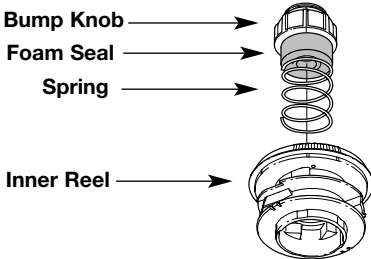

Fig. 25
1. Remove the bump knob, spring, and foam seal by turning the Bump Knob counterclockwise (Fig. 25).
2. Pull out the bump knob, spring, and foam seal (Fig. 25).
7. Place the bump knob, spring, and foam seal in the outer spool (Fig. 25).